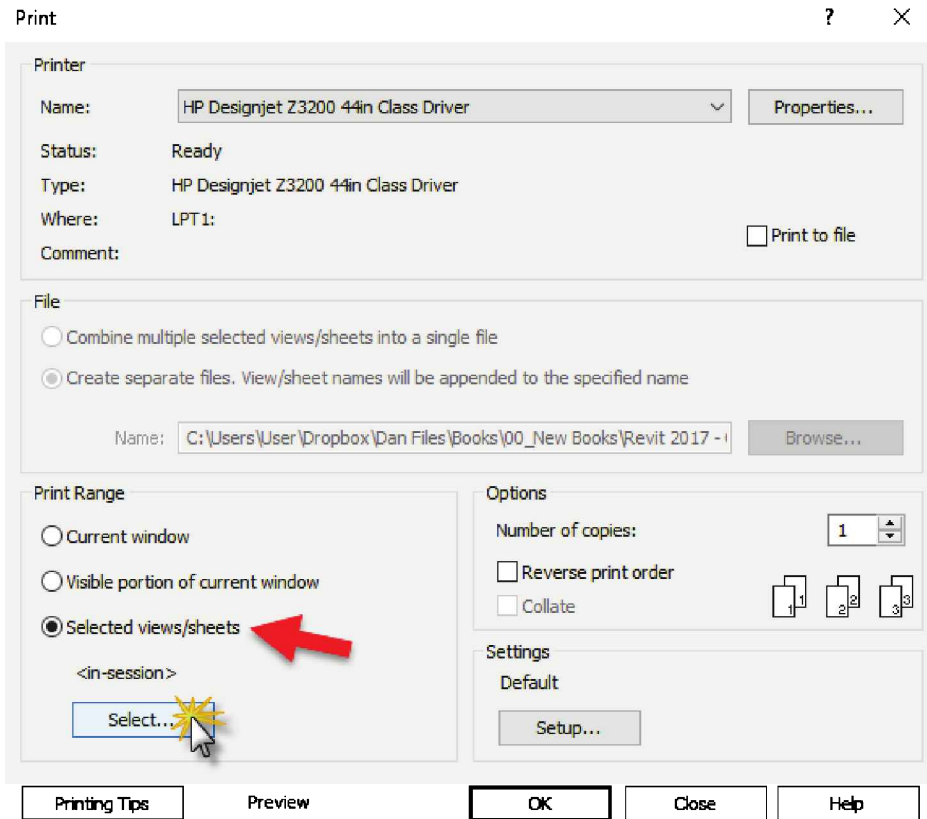

FIGURE 14-3.1 Print dialog box
3. In the *Print range* area, click the option **Selected views/sheets** (Figure 14-3.1).